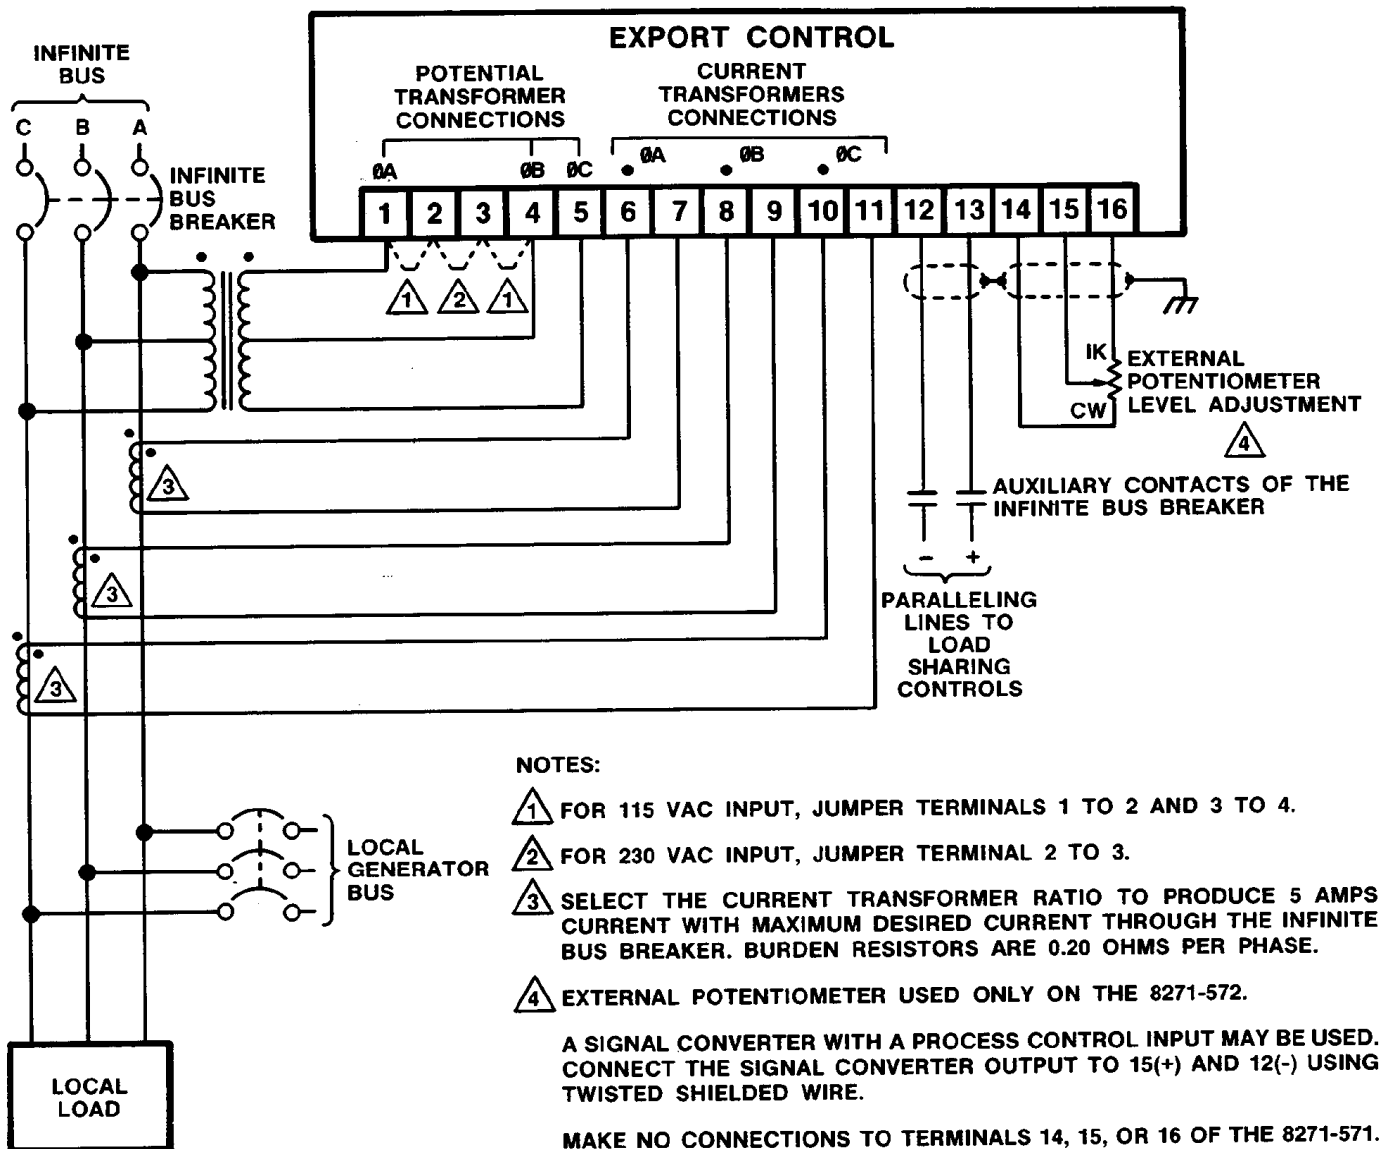

Figure 2-2. Typical Wiring Diagram
Figure 2-2 provides typical wiring instructions, however, a plant wiring diagram for your specific control part number must be used for actual installation.
The 8271-572 is for external level setting in either of two ways: (1) A potentiometer or motor operated potentiometer is wired as shown in Figure 2-2, or (2) an external controller or transducer may be used to program the desired power level. In the latter case, the user supplied device provides an input to a Woodward signal converter. The signal converter output is connected to the Export Control terminals 12(-) and 15(+). In both cases twisted, shielded wire should be used.
If the 8271-572 is used, install a 1 k Ω level potentiometer as shown in Figure 2-2. If the power level is to be controlled by a transducer and signal converter, the 1 k Ω potentiometer will be replaced after the Installation Check.